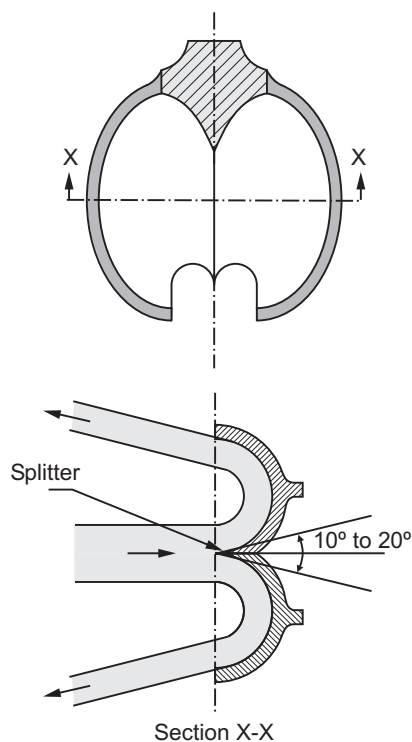

Fig. 3.7 : Shape of bucket
- The buckets have a shape of double semi-ellipsoidal cups and each bucket is divided into two symmetrical parts by a sharp-edged ridge called as **splitter**. Refer Fig. 3.7.